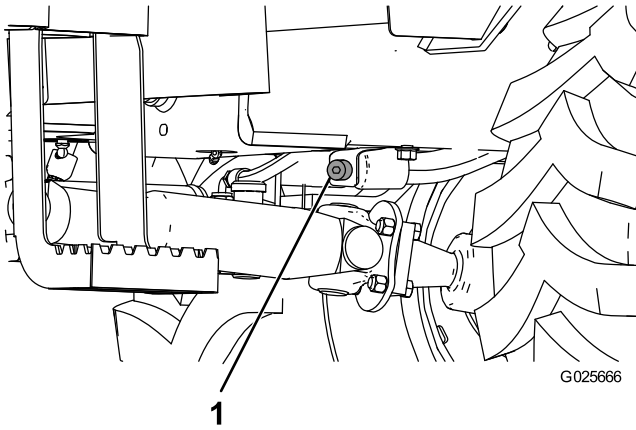

Figure 28
- Remove the filler cap and the drain plug (Figure 28).